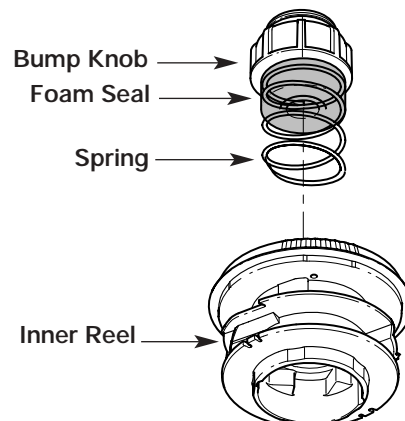

Fig. 18
1. Turn the bump knob counterclockwise and remove the bump knob, spring and foam seal (Fig. 18).
4. Hold the inner reel in place and install the bump knob, spring and foam seal. Press down and turn the bump knob clockwise. Grasp the ends and pull firmly to release the line from the holding slots in the inner reel (Fig. 18).
2. Pull out the bump knob, spring and foam seal (Fig. 18).
7. Place the bump knob, spring and foam seal into the inner reel (Fig. 18).